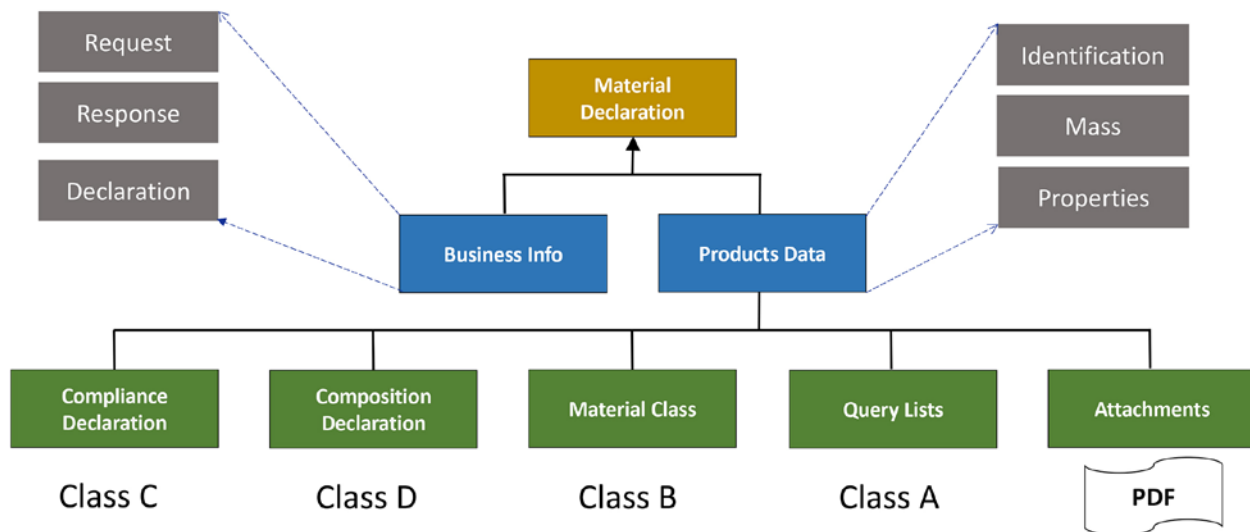

Figure 8: New structure of IEC 62474 Edition 2 standard.
- IEC 62474 also provides for the ability to use query lists (Figure 8)